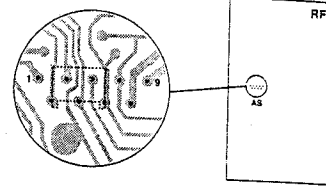

Fig. 1
- If needed, mount the 3-pole PCB-connector supplied in the kit into place reserved for the 9-pole AS-connector. The 3-pole connector must be mounted so that only pins AS 3, 4, and 5 are used (see Fig. 1)
(see Fig. 1)atching code